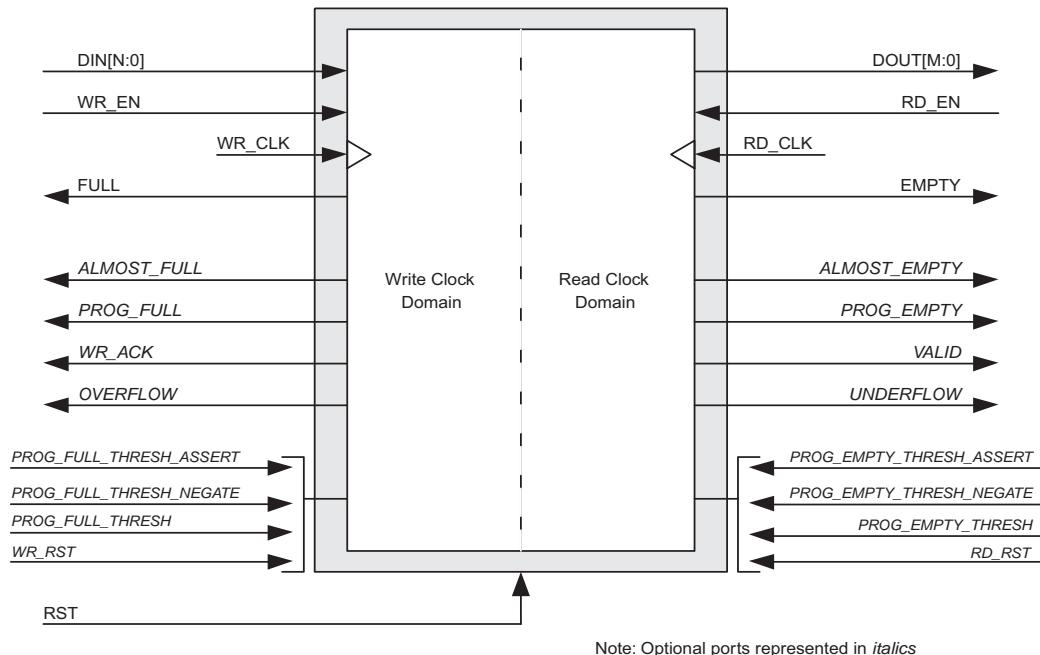

Figure 5-1: FIFO with Independent Clocks: Write and Read Clock Domains
**Figure 5-1** shows the signals with respect to their clock domains. All signals are synchronous to a specific clock, with the exception of RST, which performs an asynchronous reset of the entire FIFO.